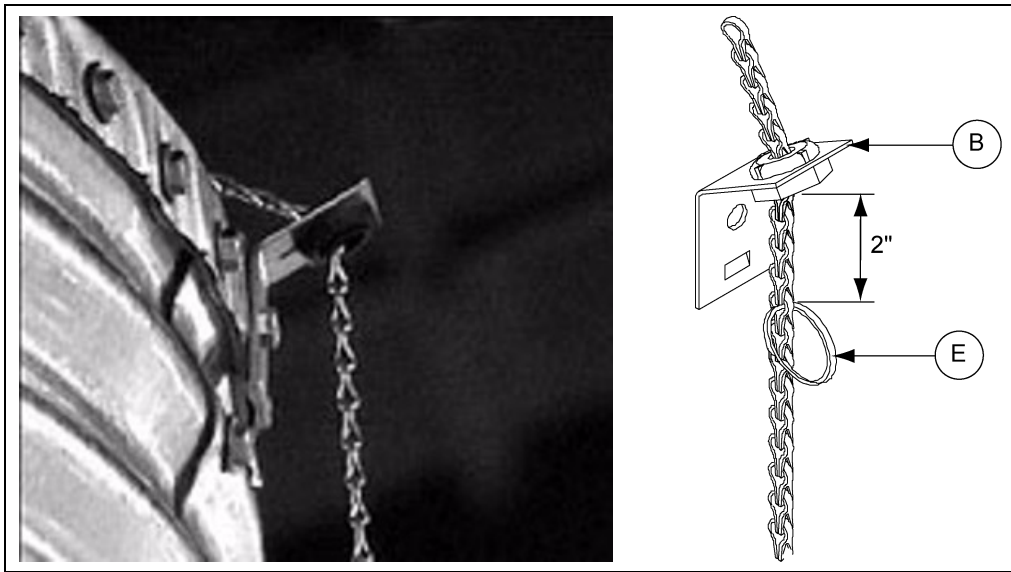
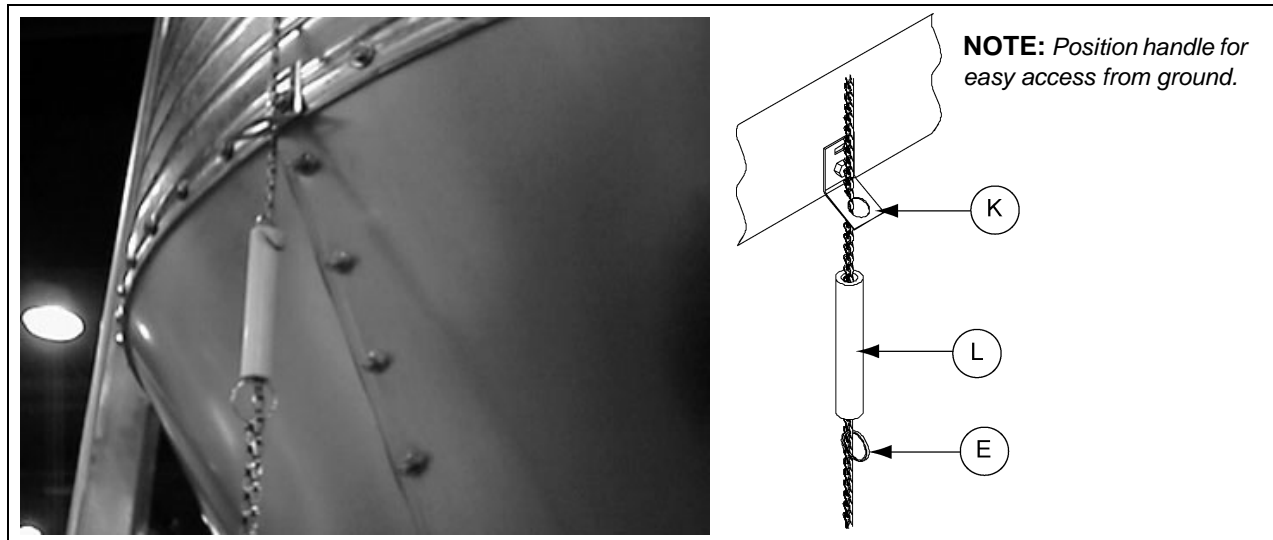

Figure 10F
Figure 10G
- Thread the existing chain through the hole on the end of the lever arm and fasten it to the provided key ring. (See Figure 10B on Page 50.) Ensure that the ground control chain is freely looped through the roof eave bracket and chain holder. After removing the slack in the chain while the lid is fully closed and in latched position, re-position the key ring 2" below the roof eave bracket. (See Figure 10F.) Re-adjust the existing handle and key ring so the handle is positioned for easy access from ground. (See Figure 10G.) Check to make sure that the key rings allow the cap to fully close, but will not allow the chain enough slack on top of the cap to become wrapped around the lever arm in a high wind condition.